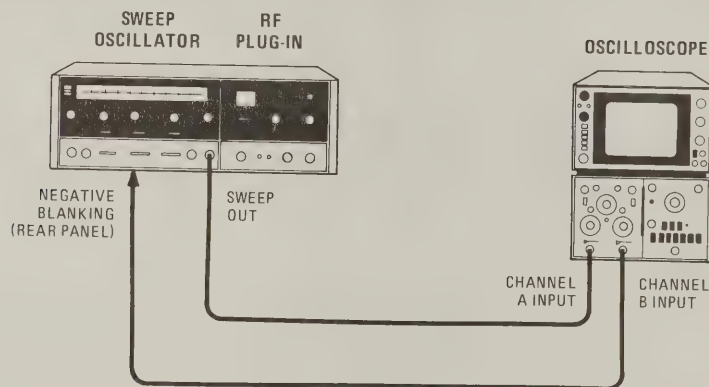

Figure 4-3. Sweep Time Adjust and Stop Sweep Test Setup
- a. Connect equipment as shown in Figure 4-3.